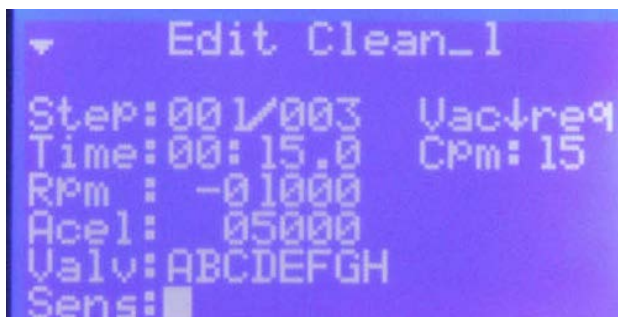

Figure 3-30
- **SPIN SPEED:** The HPD2 spin speed is programmable with both positive and negative numbers. Positive numbers >+00001 will cause the motor to rotate counter clockwise and negative values <-00001 will cause clockwise rotation. Negative values can be entered by highlighting the + or – symbol in the edit mode and pressing the up or down arrow key. See figure 3-30